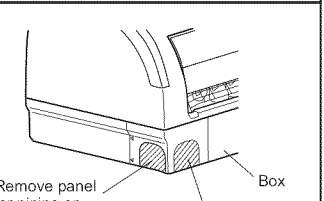
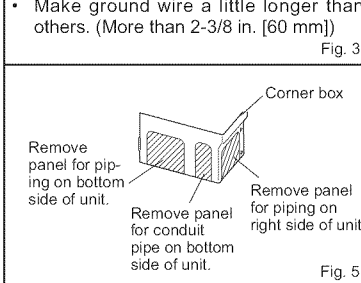

Fig. 4
Fig. 5
- 10) According to the piping direction, remove the shaded part of the left side of box (Fig. 4) or corner box (Fig. 5). Reinstall electrical cover, corner box and panel assembly.
- Insert the drain hose fully into the drain pan at the back right of the indoor unit. (Fig. 4)
- Insert the drain hose into wall hole sleeve (C), and attach the upper part of indoor unit onto the installation plate (1). Then, shift the indoor unit completely to the left to make placing the piping in the back of the unit easier.
- Cut out two pieces of cardboard from the shipping box (use any two pieces of the four pieces), roll each piece, hook them onto the back rib, and use them as spacer to lift the indoor unit. (Fig. 5)
- Connect the refrigerant piping with the extension pipe (B).
- Attach the lower part of the indoor unit into the installation plate (1).
- 4) Flaring work (Fig. 4, 5). Firmly hold copper pipe in the dimension shown in the table. Select A inch (mm) from the table according to the tool you use.